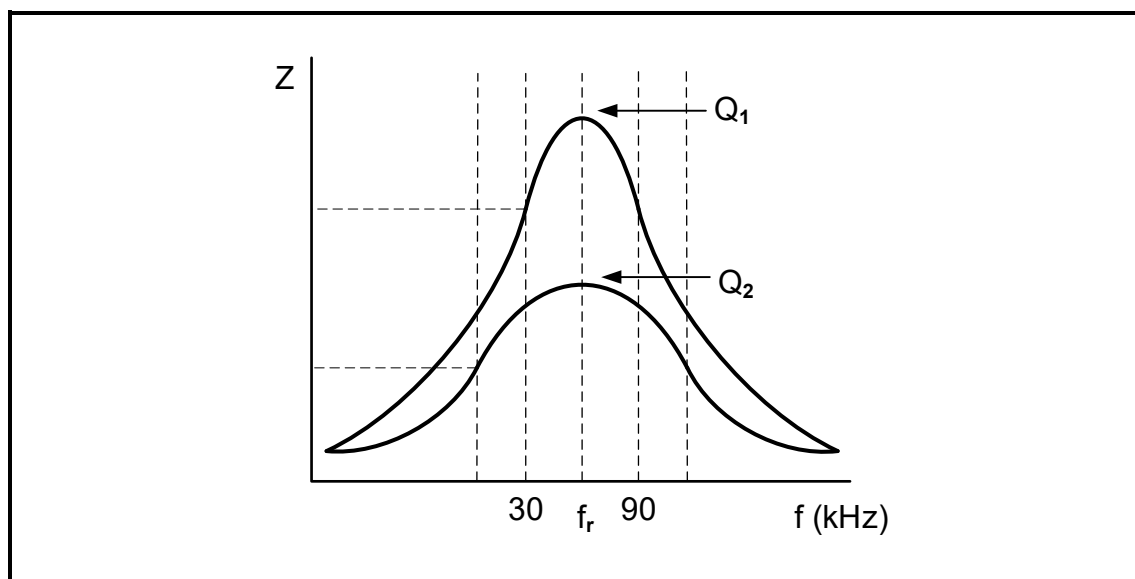

FIGURE 3.5: Q-FACTOR CHARACTERISTIC CURVE
- 3.5 FIGURE 3.5 below shows the Q-factor characteristic curve of an RLC circuit, NOT drawn to scale. Q_1 and Q_2 indicate how a change in the L/C ratio affects the Q-factor of a resonant circuit. Answer the questions that follow.